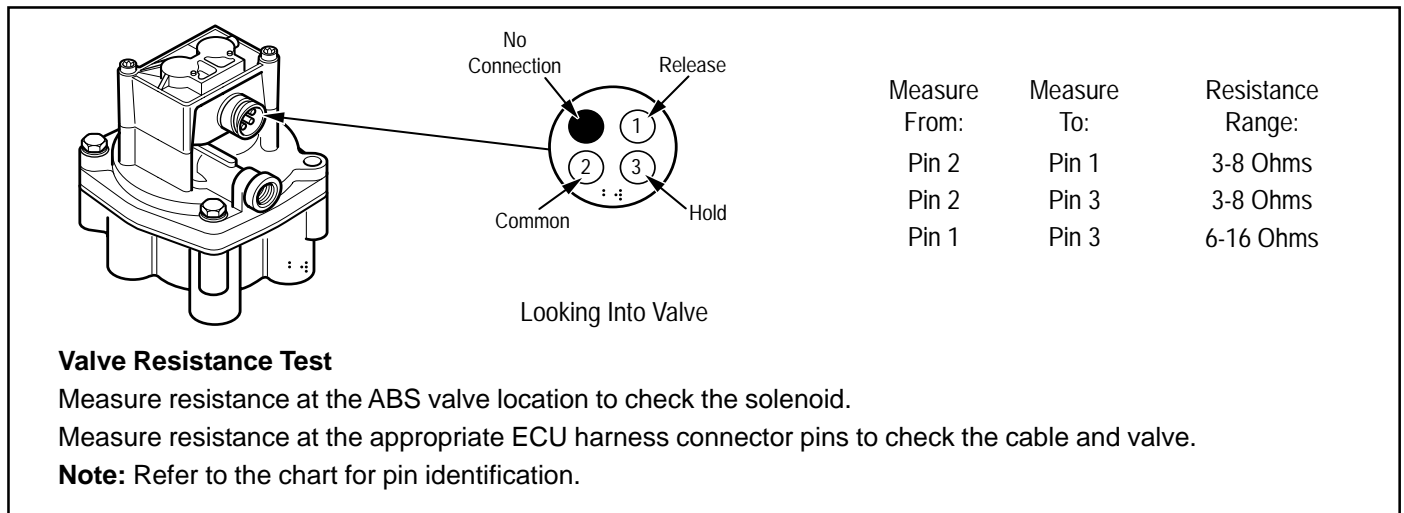

FIGURE 32 - Valve Pin Identification and Resistance Chart
• If resistance is correct, check harness for short in wiring. (See Figure 32.)